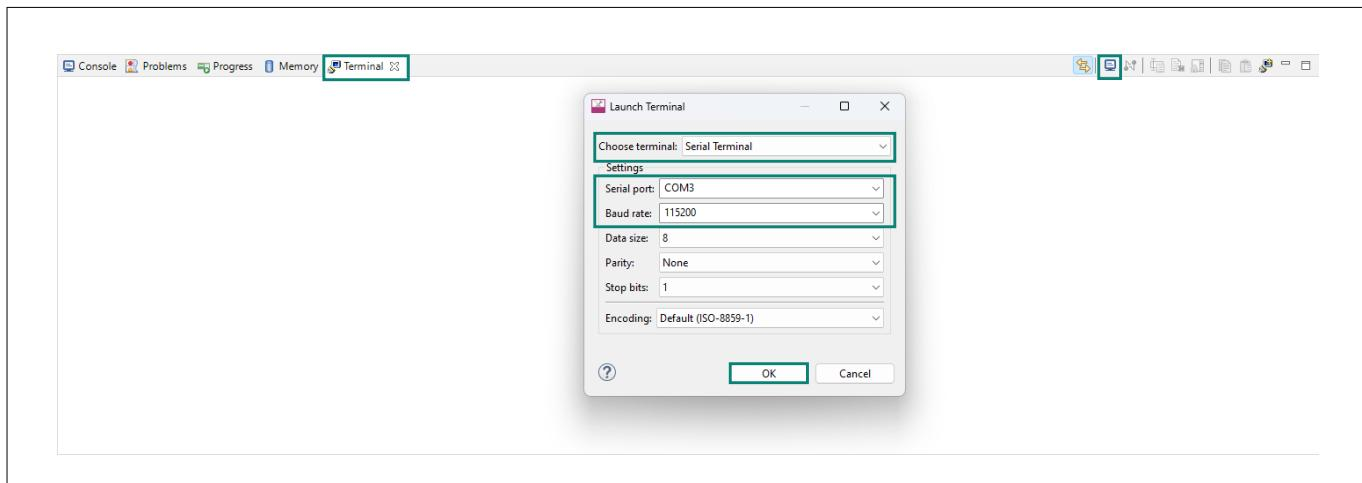

Figure 12 Opening the serial terminal window and connecting to USB-UART for LED blink code
- To view “Hello World” in the terminal window, make sure to open the serial terminal and connect it to the KitProg3 USB-UART COM port with baud rate of 115200. You can access the serial terminal available in the ModusToolbox™ near the **Console** window (see Figure 12)